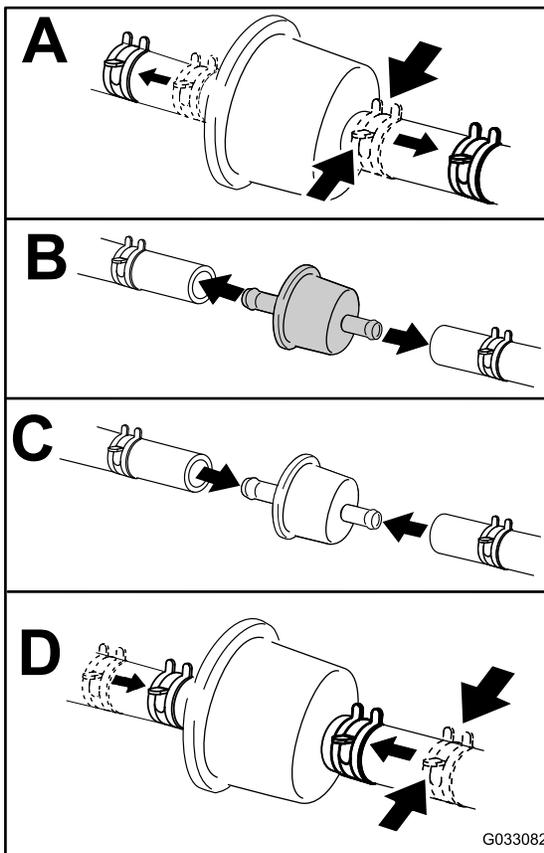

Figure 64
4. Close the fuel-shutoff valve under the seat (Figure 64).